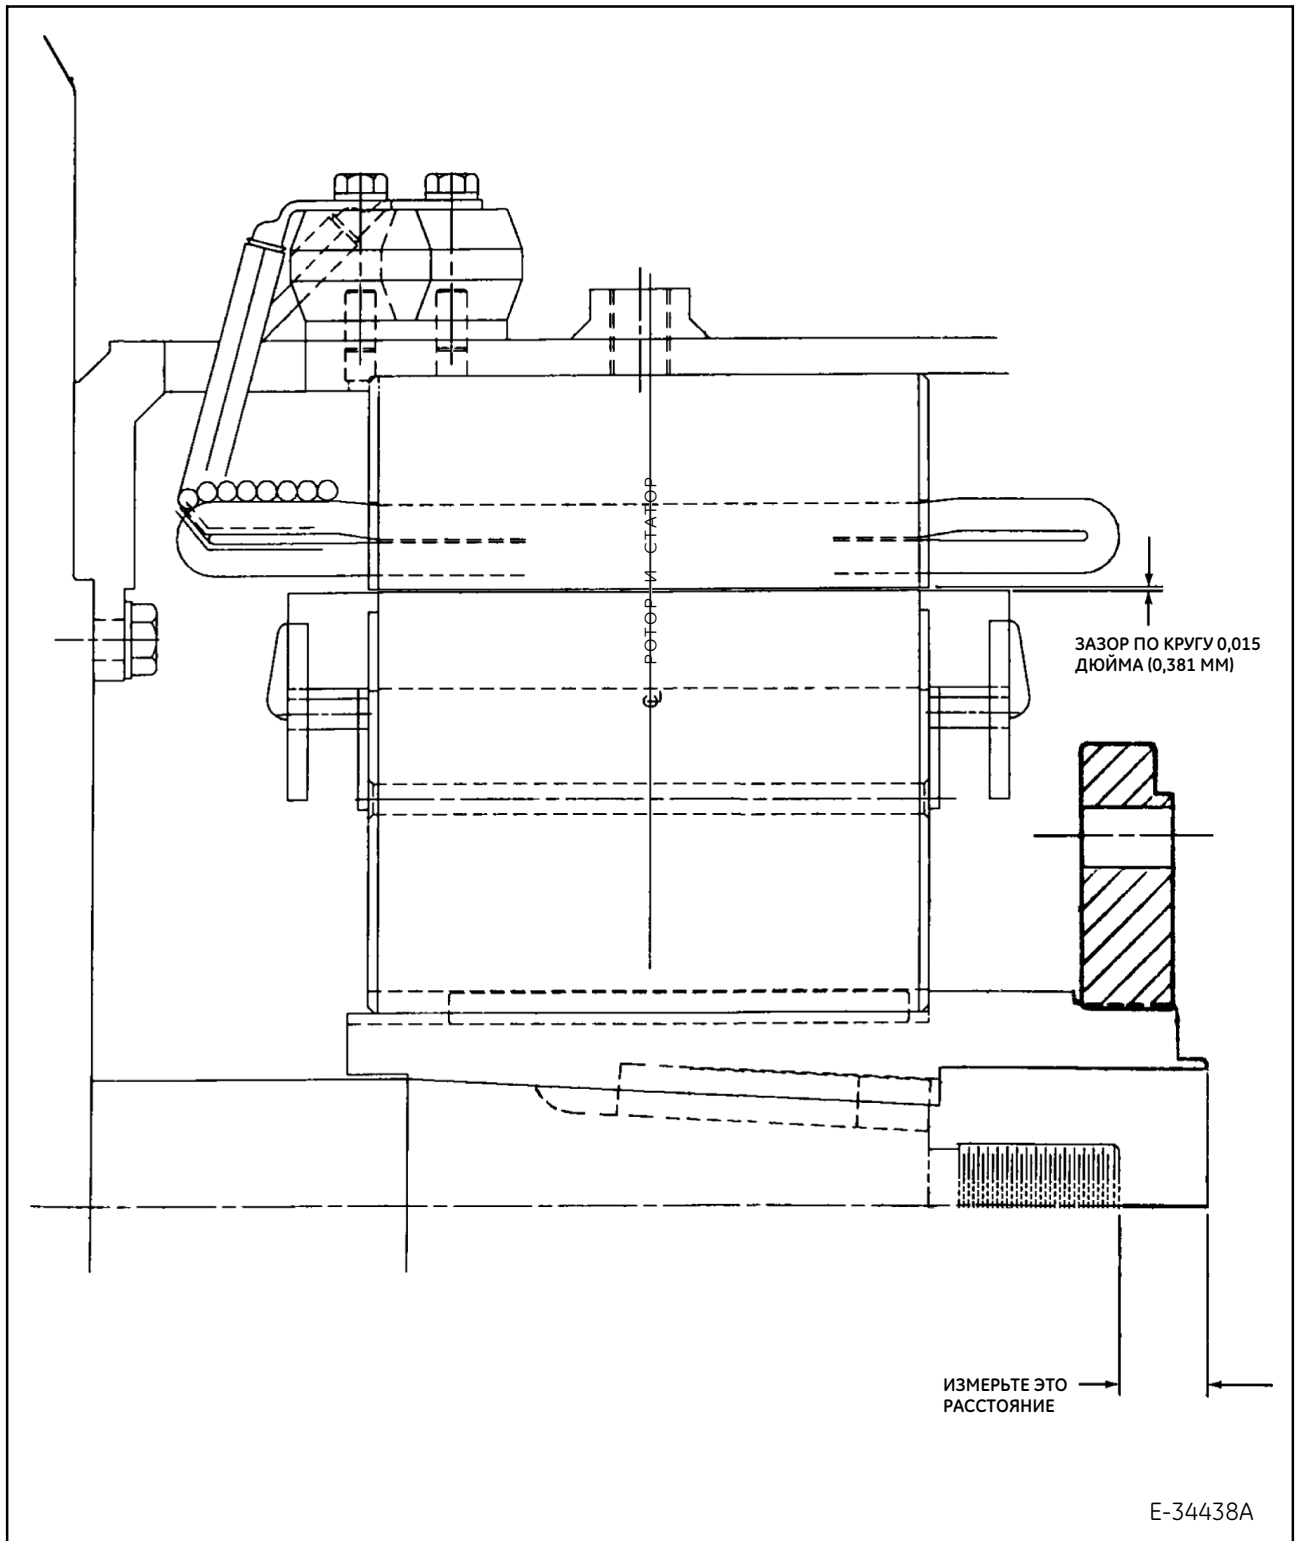

Figure 7. Measure Distance Between End of Rotor and End of Compressor Shaft
16. Using a depth micrometer, measure the distance from the end of the rotor to the end of the compressor shaft. Record this reading (Figure 7).
21. Check radial gap between stator and rotor with feeler gage. Minimum gap is 0.015 in. (0,381 mm). Sweep feeler gage all around rotor (Figure 7).